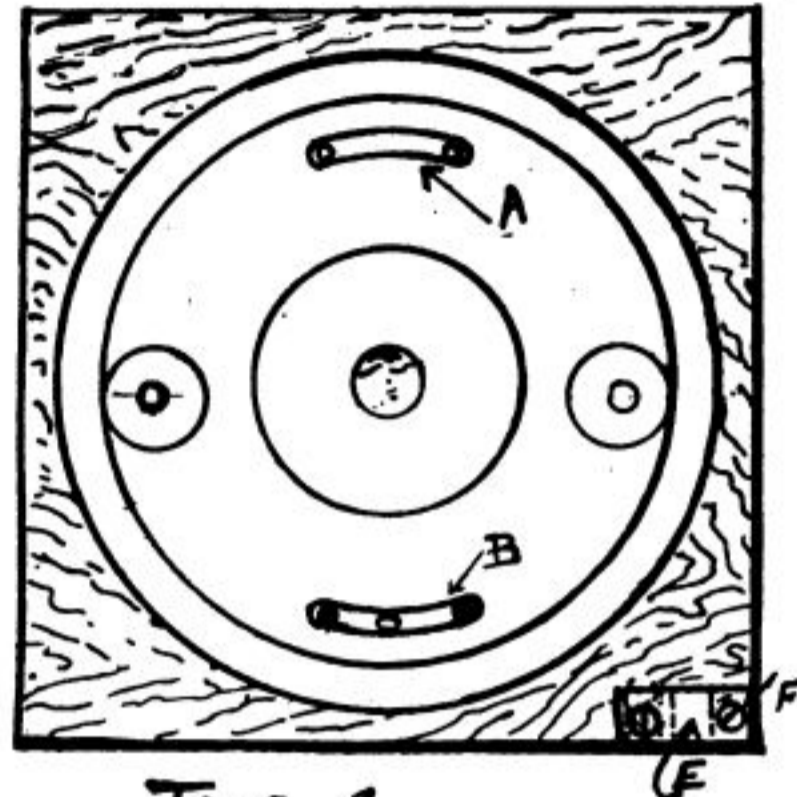
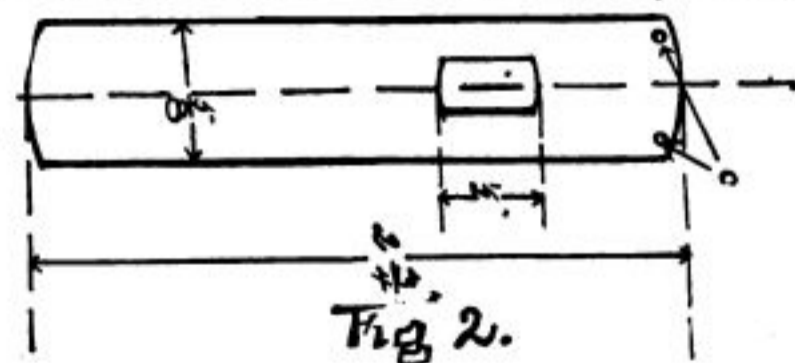

Fig. 1.
Fig. 2.
A large size snap switch of the "Perkins" style was used by the writer, one having two contacts; these contacts, together with the small binding posts, are sawn off smooth with the small plates (A) and (B), Fig. 1. The working parts in the center will have to come out and the coiled spring, movable contacts, etc., stripped off the central rod. This rod is replaced, to be used to keep the top in place.
are drilled in a piece of spring brass 5/8 inch wide and 2 3/4 inches long. These holes (C) will have to be threaded the same as the original plate. A slot is also cut in the spring (see Fig. 2) so that when it is screwed in the place of (A) Fig. 1, it may be moved up and down without touching the central rod.
A base 2 1/2 inches square and 1/2 inch thick is next prepared, the porcelain base being screwed to it centrally. A block 5/8 inch high and 3/8 inch thick is screwed in the lower right-hand corner (Fig. 1, E). Through this block drill a